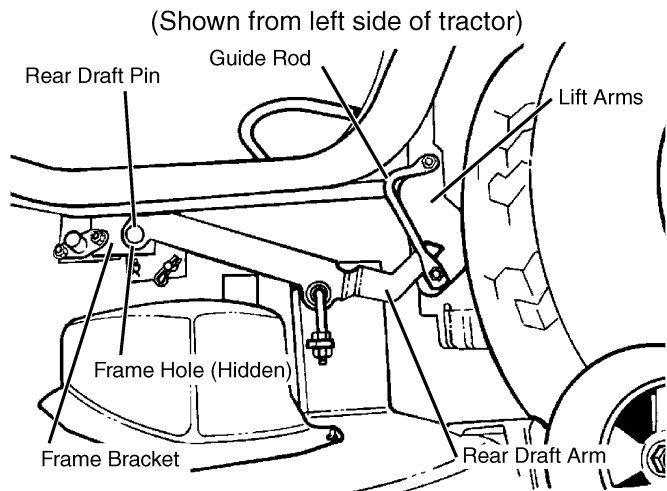

FIG. 7
- Position the deck so the rear draft arms are between the gold colored guide rods and the lift arms on the outboard side. (See FIG. 7)
- Lift the mower deck. Place 2 in. blocks under the R.H. and L.H. rear edges of the deck enabling you to align the holes in the front of the rear draft brackets with the holes in the frame bracket. (See FIG. 7)